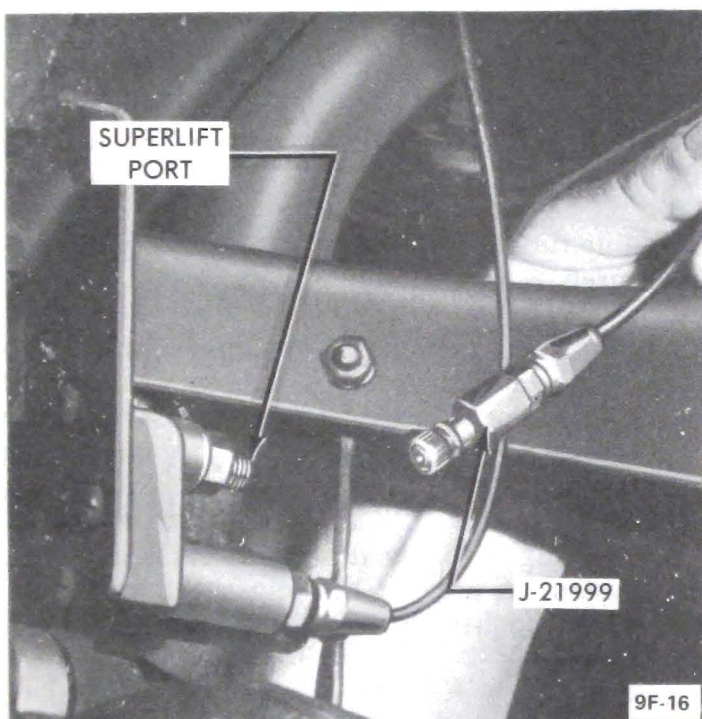

Figure 9F-20 - Superlift Air Supply Line Removed
2. Remove Superlift air supply line at height control valve. See Figure 9F-20.